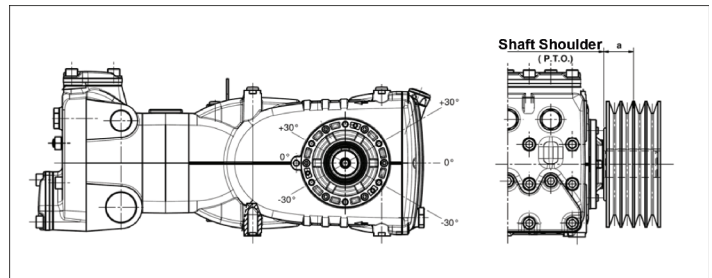

fig. 10
The pump may be driven by a v-belt system. For this pump model, we suggest to use 4 XPB belts (16.5 x 13 cogged); only for long durations, use the XPC profile; both the characteristics and the power transmission capacity of each belt can be verified on the diagram in fig. 7, in function of the number of rotations normally declared by the Manufacturer. Minimum diameter of the driven pulley (on the pump shaft): ≥ 250 mm. The radial load on the shaft must not be greater than 7500 N (value required for the definition of the layout). The transmission is considered adequate if this load is applied at a maximum distance of $a=40$ mm from the shaft shoulder (PTO) as indicated in fig. 10
b) Use high efficiency belts - for example **XPB** instead of **SPB**; this will allow to use a lower number of belts to transmit the same power, and consequently a minor distance of the resultant from the shaft shoulder (PTO) "a" in fig. 10.